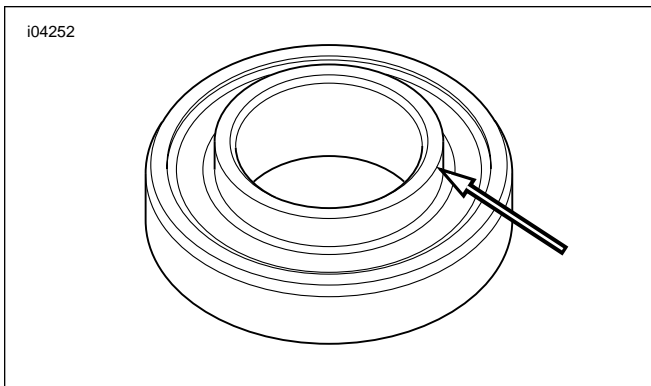

Figure 2-81. Steering Head Bearing Lip
- a. See Figure 2-81. Place the upper bearing squarely in the steering stem bore with the inner race lip pointing away from the steering head.